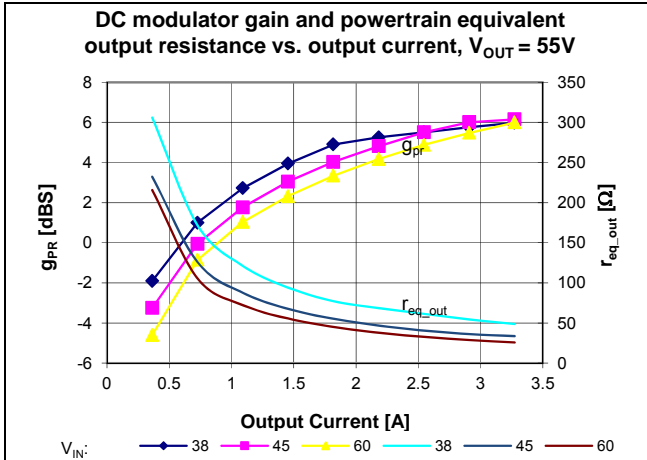

Figure 17 – Powertrain characteristics vs. I_{OUT} ; Resistive load, $V_{OUT} = 55V$, various V_{IN}
The powertrain small signal (plant) response consists of a single pole determined by the load resistance, the powertrain equivalent output resistance, and the total output capacitance (internal and external to the module). Both the modulator gain and the equivalent output resistance vary as a function of line, load and output voltage, as shown in Figures 17, 18 and 19. As the load increases, the powertrain pole moves to higher frequency. As a result, the closed loop crossover frequency will be the
- Modulator Gain G_{PR} : See Figures 17, 18, 19